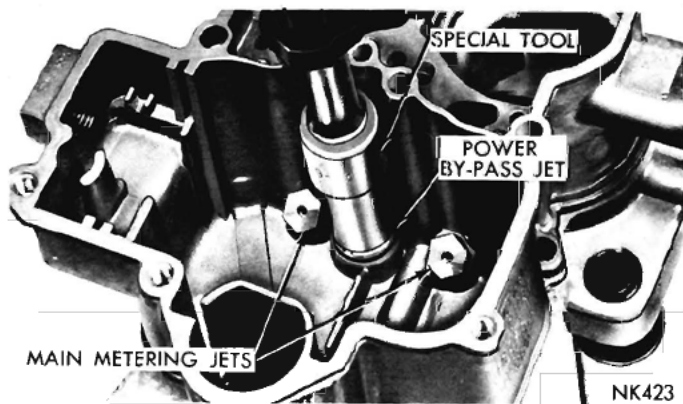

Fig. 7—Removing or Installing the Power By-Pass Jet
(5) Using T109-73S, remove the power by-pass jet and gasket, as shown in (Fig. 7).
(6) Using Tool T109-173, remove the two main metering jets, as shown in (Figs. 7 or 8).
(7) Remove the two air horn screws, used to hold the main and throttle bodies together. Separate the throttle and main bodies, and discard the gasket.
(3) Install the power by-pass jet and new gasket. Tighten securely, using Tool 73598. Refer to (Fig. 7).